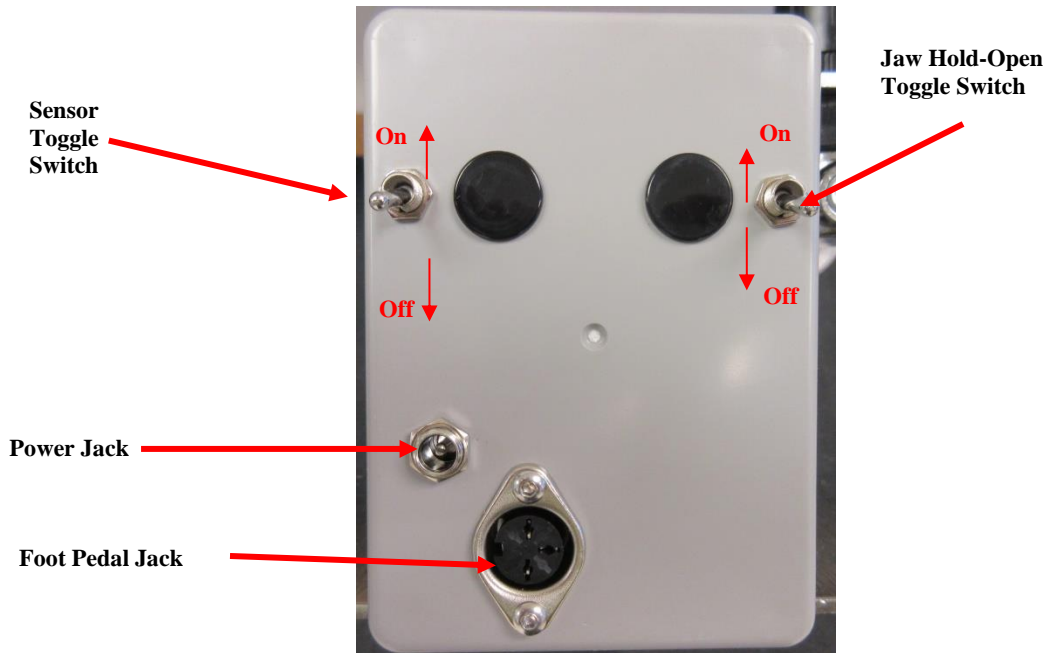
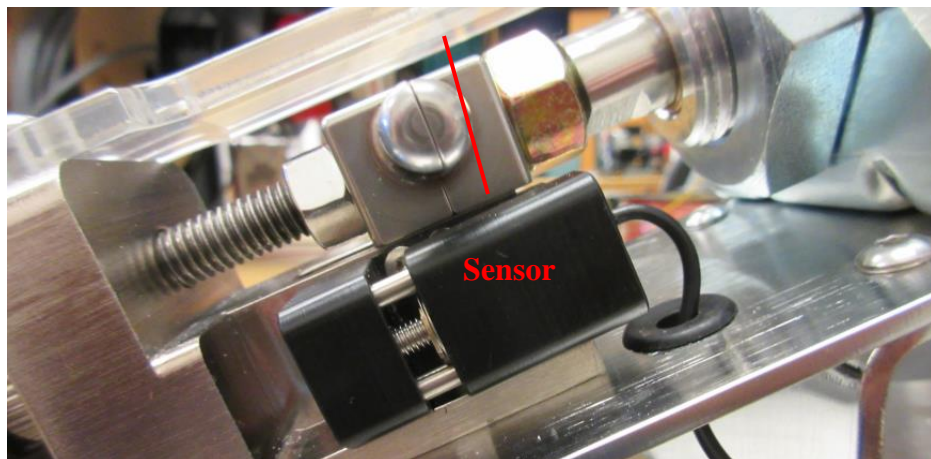

Figure 2.3.1: Electronics enclosure connections
Figure 3.3.1: Photo-sensor line of sight
Setting up the connections on the CRD202 is a simple task. Please reference *Figure 2.3.1* below when making all connections to the back panel:
- With A/C power and compressed air attached to the expander, actuate the sensor or optional electric foot switch, which will activate the expander. Adjust the expander lower jaw to the position you want using the **Thumb Wheel Knob**. Note that the jaws may be set to remain in the “open” position using the toggle switch noted in **Figure 3.3.1**, and triggering the foot pedal. Make sure the toggle switch is returned to the “off” position, or the jaws will remain open.
- The CRD202 is designed to be used with a photo-sensor that will automatically sense the presence of tubing over the jaws. The sensor is aligned against the tangent of the jaw as shown in *Figure 3.3.1* below: **Note:** The unit may be operated with an optional electric foot switch as well. The CRD202 will operate via the electric foot switch, whether or not the Sensor Toggle Switch (see *Figure 2.3.1*) is in the ON or OFF position.
- With A/C power and compressed air attached to the expander, actuate the electric foot switch which will activate the expander. Adjust the expander lower jaw to the position you want using the **Thumb Wheel Knob**. Note that the jaws may be set to remain in the “open” position using the toggle switch noted in **Figure 3.3.1**, and triggering the foot pedal. Make sure the toggle switch is returned to the “off” position, or the jaws will remain open.